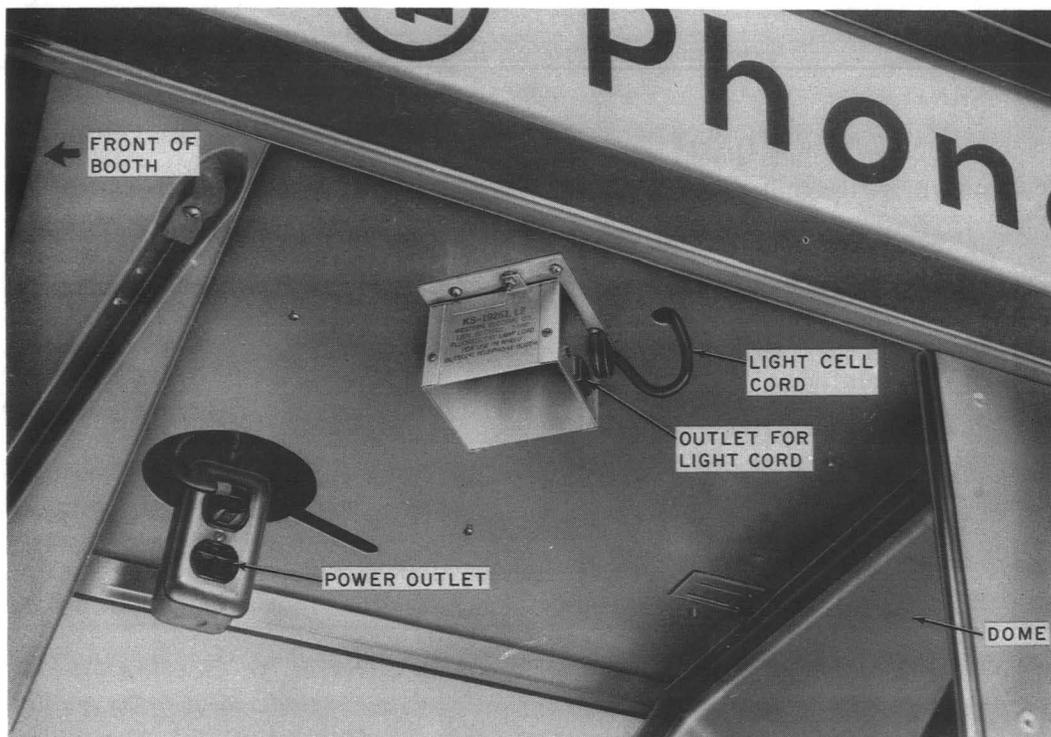

Fig. 16—Position of Light Control on Ceiling of KS-16797 Booth
- (h) Push light cell and cord through hole drilled in ceiling and secure grommet. Push the power cord through 2-inch hole and attach control unit to adapter plate (Fig. 16).